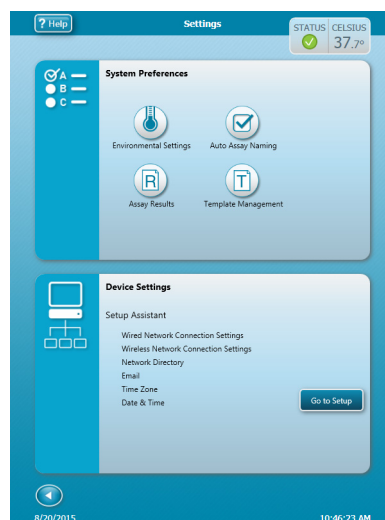

Figure 13. XFp Analyzer settings page
From the Start page, touch the Settings button to access the XFp Analyzer Settings, see **Figure 13**. XFp Analyzer settings page containing:
- Users can set the tray temperature to any value (in increments of 0.1 °C) within the allowed range. **Figure 13** on page 26 shows the range of supported ambient and sample tray temperatures.